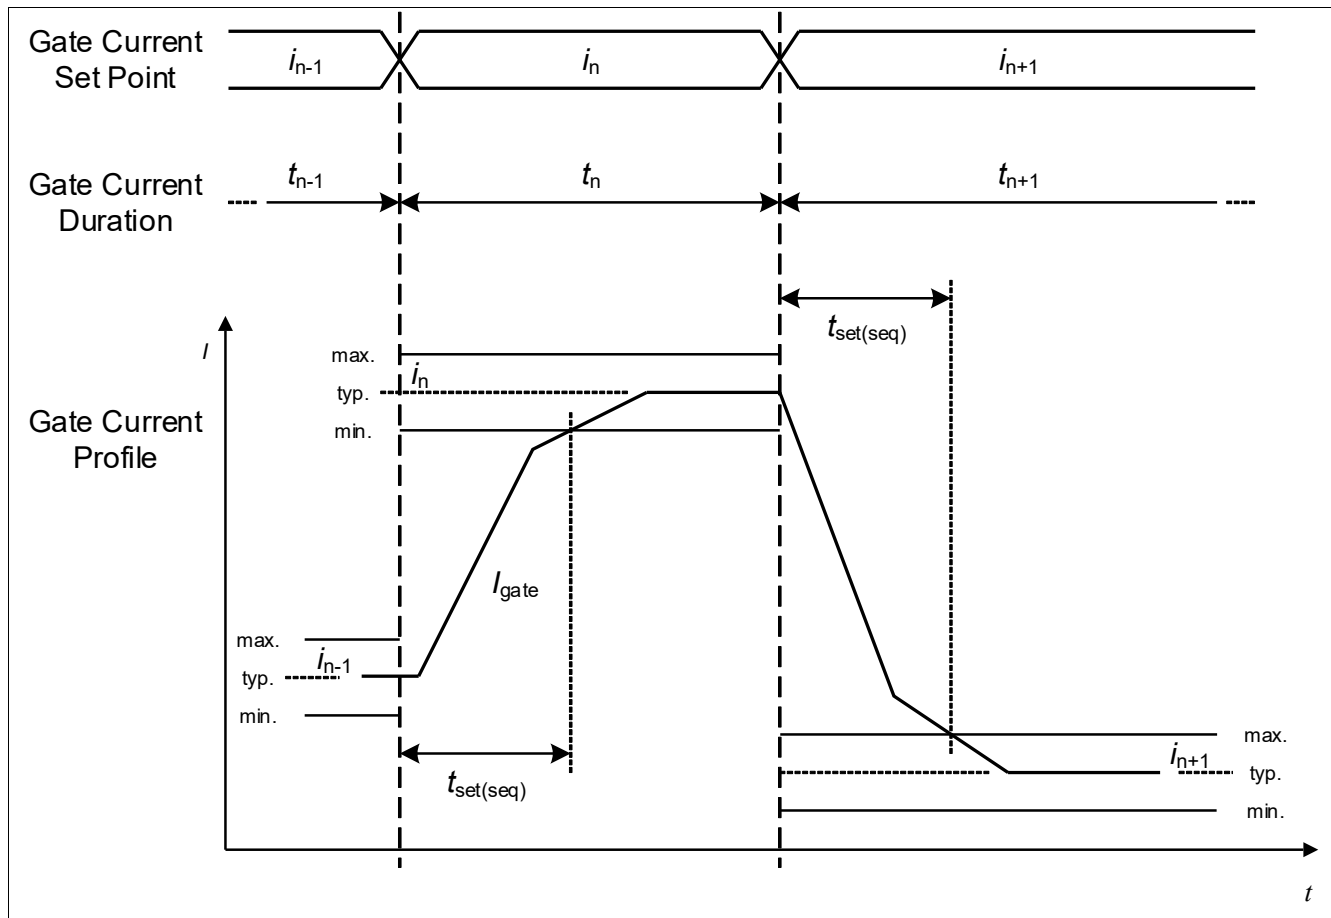

Figure 38 Gate current settling time
- At the transition between two gate current set points the actual gate driver output current settles within $t_{\text{set(seq)}}$ to the new gate current set point (see Figure 38).